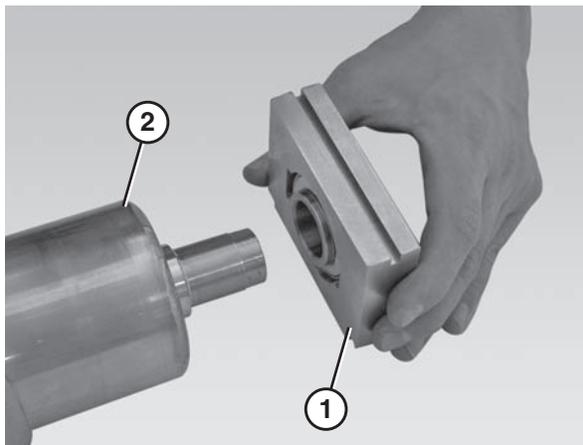

Figure 102
4. Slide the housing block (**Figure 102, item 1**) and bearing off of the tension spindle (**Figure 102, item 2**).